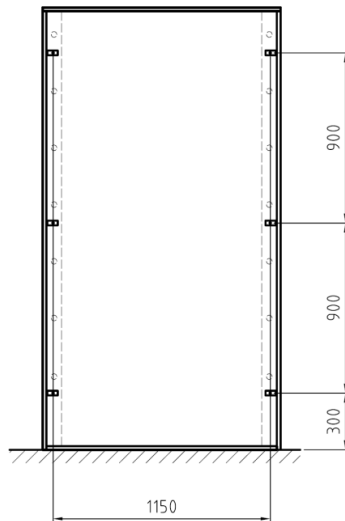

Figure 4: Drilling dimensions for wall mounting
Once assembled, attach the frame to the wall using the brackets (5) and the relevant nuts (12), bolts (19), washers (20), screws (13) and wall plugs (18). Don't forget to check the wall for potential obstacles, such as pipes or electrical cables. We recommend using the drilling dimensions shown in figure 4, provided there are no interfering objects. If there are, the drilling points should be slightly offset.